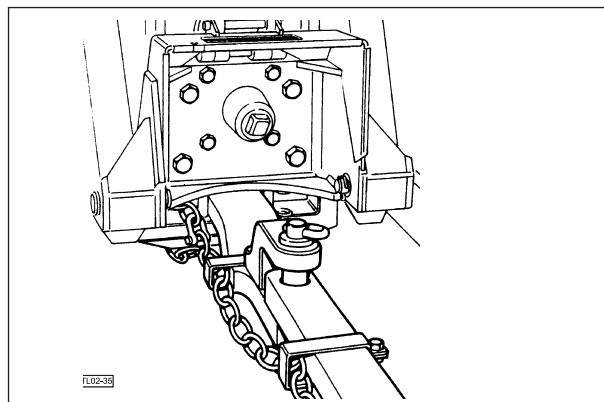

Fig.2-37
- Only North American markets. A safety chain will help control drawn equipment should it be accidentally separated from the drawbar while transporting. Using the proper adaptor parts, attach the chain to the tractor drawbar support or other specified anchor location. Provide only enough slack in the chain to permit turning. See your Dealer for a chain with a strength rating equal to, or greater than the gross weight of the towed machine (Fig.2-37).